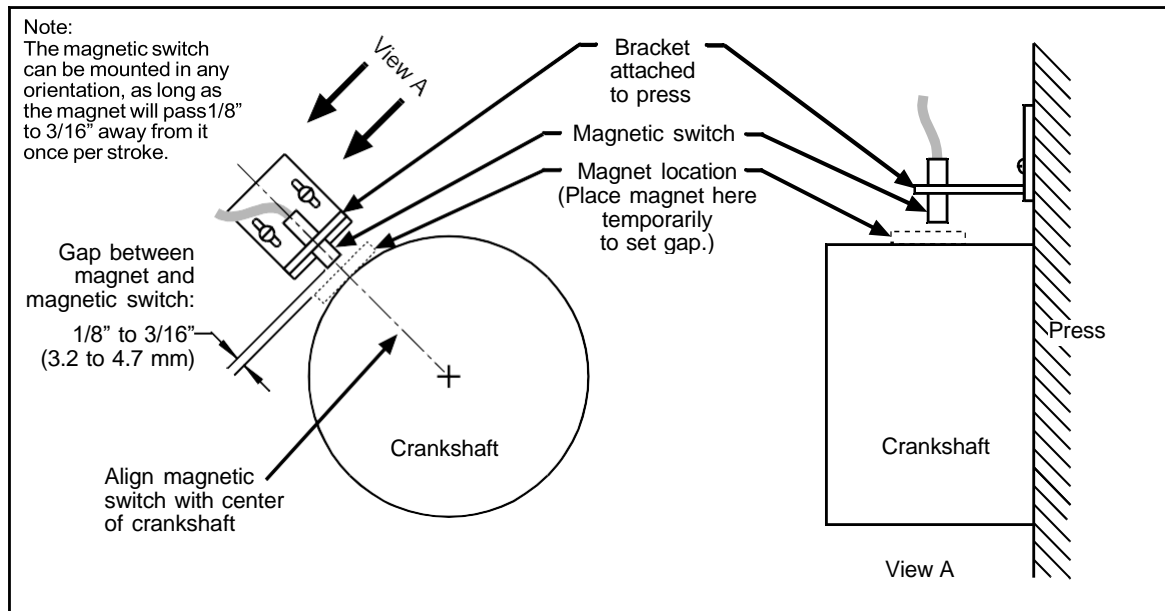

Figure 2-23. Position Sensor Installation
14. Temporarily mount the magnet, plastic side up, so it is centered beneath the magnetic switch as shown in Figure 2-23.
- If a "Position Sensor Incorrect" error message displays after you try running the press (see step 22), the position sensor may not have enough dwell to provide an adequate signal at high speeds. Try mounting the magnet on a smaller shaft (see Figure 2-23).